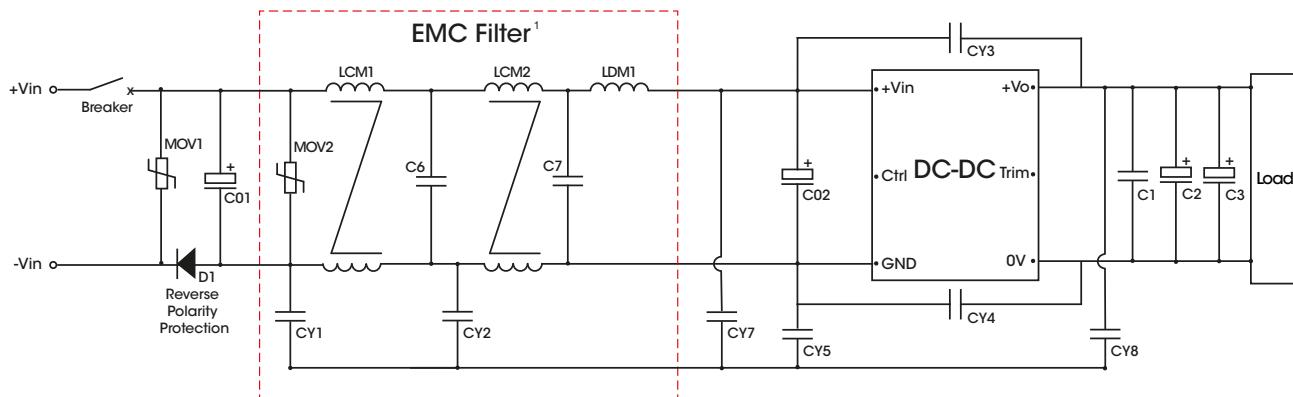

Figure 6. Recommended EMC Filtering
RE CISPR16-2-3 30 MHz – 230 MHz ; 40 dBuV/m at 10 m (see Fig. 6 for recommended circuit) 230 MHz – 6 GHz; 47 dBuV/m at 10 m (see Fig. 6 for recommended circuit)	CLASS A
Surge EN 61000-4-5 Line to line ±1 kV (42 Ω, 0.5 μF) (see Fig. 6 for recommended circuit) Line to line ±1 kV (2 Ω, 18 μF) (see Fig. 6 for recommended circuit)	perf. Criteria A
RE CISPR16-2-3 30 MHz – 230 MHz; 40 dBuV/m at 10 m (see Fig. 6 for recommended circuit) 230 MHz – 1 GHz; 47 dBuV/m at 10 m (see Fig. 6 for recommended circuit)	CLASS A
Surge IEC 61000-4-5 Line to line ±2 kV (2 Ω, 18 μF) (see Fig. 6 for recommended circuit)	perf. Criteria A
MS IEC 61000-4-8 60 Hz; 100 A/m (see Fig. 6 for recommended circuit) IEC 61000-4-8 60 Hz; 300 A/m (see Fig. 6 for recommended circuit)	perf. Criteria A
2. EMC Filter will be provided in a modular form, here is a recommended circuit and parameters, as shown in Fig. 6. Users can also build it themselves.